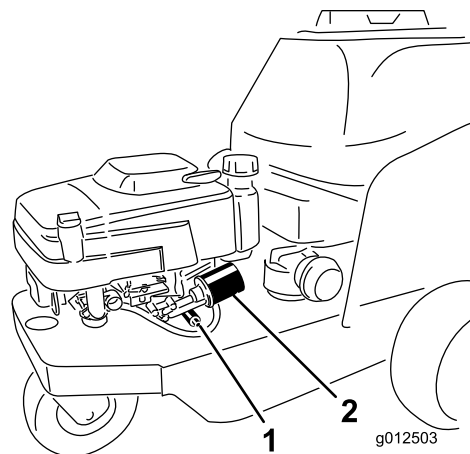

Figure 38
4. Place a suitable drain pan under the oil drain valve (Figure 38).